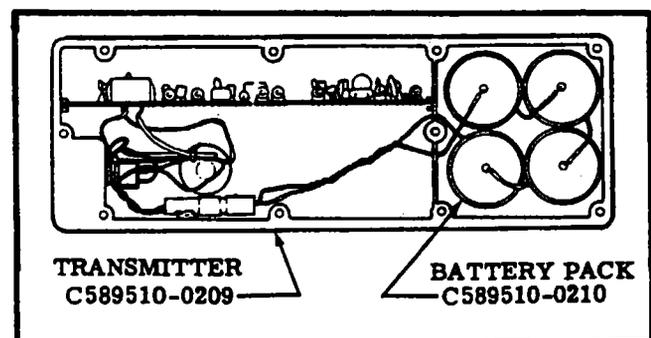

Figure 16-14. Lithium 4 Cell Battery Pack Installations
16-87. REMOVAL AND INSTALLATION OF LITHIUM FOUR (4) CELL BATTERY-PACK. (Refer to figure 16-14.)
- Place new battery-pack in the transmitter with four batteries as shown in the case in figure 16-14.
- Connect the electrical connector as shown in figure 16-14.